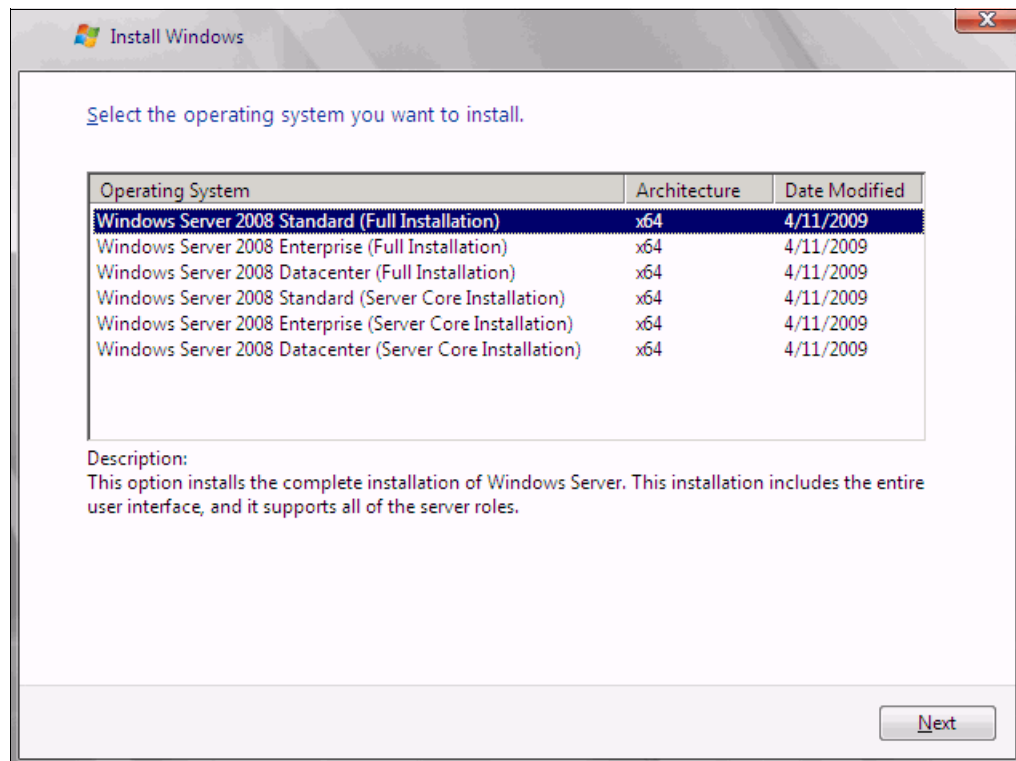

Figure 9-93 Selecting the operating system
9. In the Install Windows window (Figure 9-93), select your operating system and click **Next**.